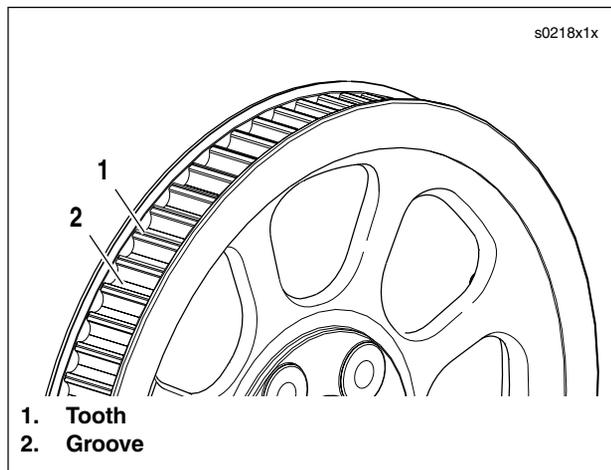

Figure 1-39. Rear Sprocket
1. See Figure 1-39. Inspect each tooth (1) of rear sprocket for:
2. To check if chrome plating has worn off, drag a scribe or sharp knife point across the bottom of a groove (2) (between two teeth) with medium pressure.